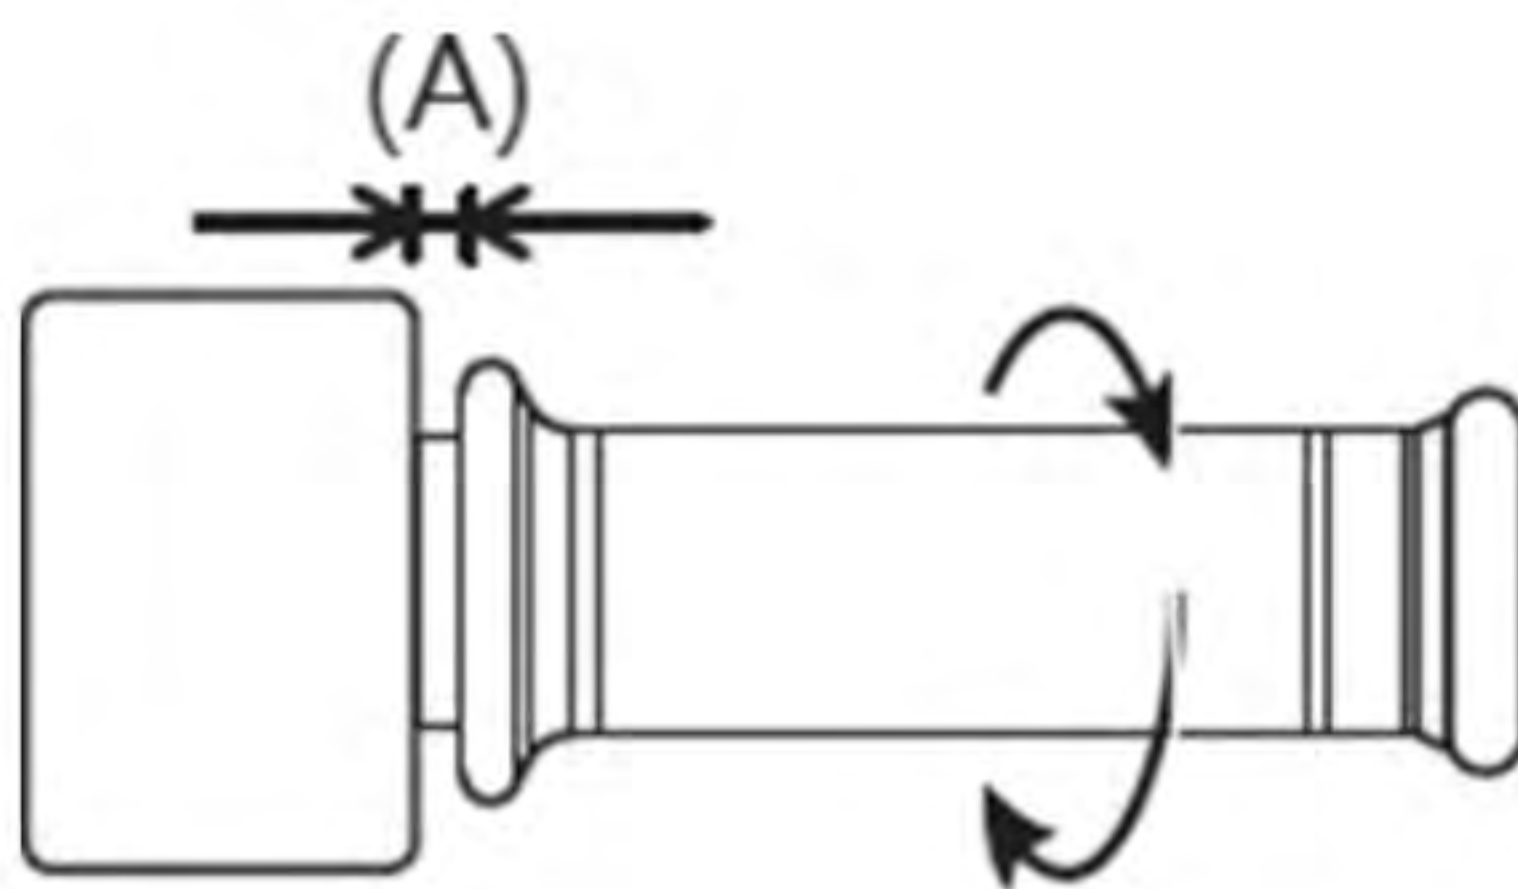

Fig. 5
For the right heated grip (throttle side, Figure 5), leave a 2–3 mm gap between the grip and the control switch (A) to ensure it rotates freely.